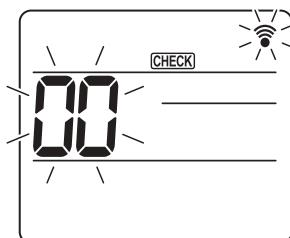
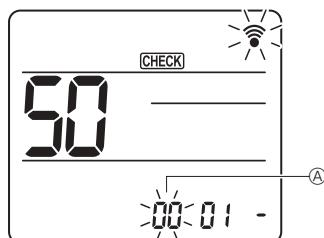
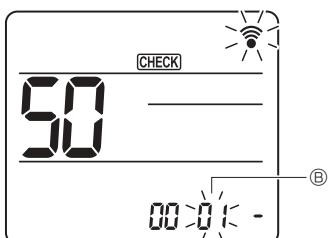

Fig. 7-17
Fig. 7-18
Fig. 7-19
- [CHECK] is lighted and "00" blinks. (Fig. 7-17)
- ② Setting the unit number
- Press the **[▼]** button to set unit number ④. (Fig. 7-18)
- ③ Select a mode
- Press the **[▼]** button to set Mode number ⑤. (Fig. 7-19)